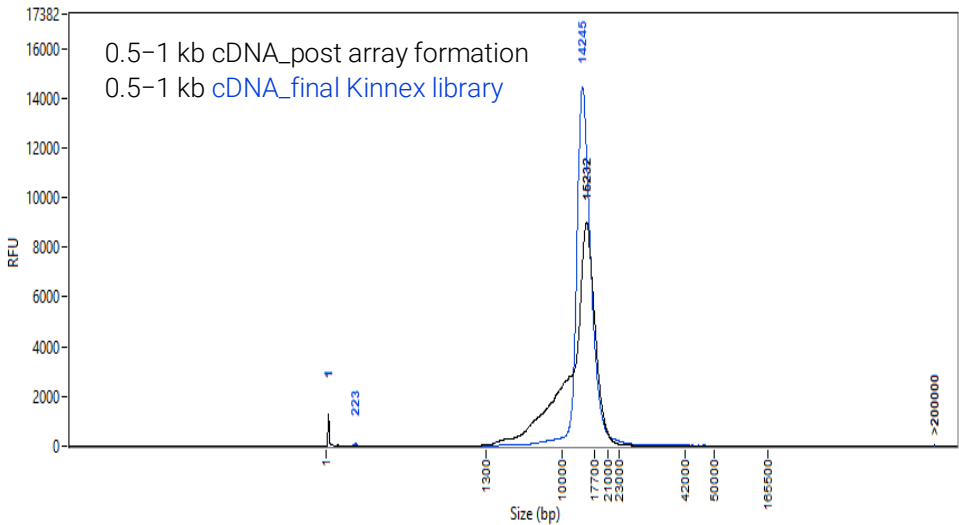

Figure 1. 16-fold post array formation and final library quality control on FEMTO Pulse
- **Recommended: Further dilute each aliquot to 250 pg/ μ L with the Femto Pulse dilution buffer. Check the final SMRTbell library size distribution with a Femto Pulse system. See Library QC section in the Best practice and Figure 1 in the Appendix for an example.**
- b. Measure the 5-fold diluted aliquot saved at step 4.22 using a Qubit fluorometer with the 1× dsDNA HS Assay Kit. Further dilute the aliquot to 250 pg/µL and assess the array size distribution using a Femto Pulse system. Figure 1 in the Appendix shows an example of an ideal array profile post array formation.